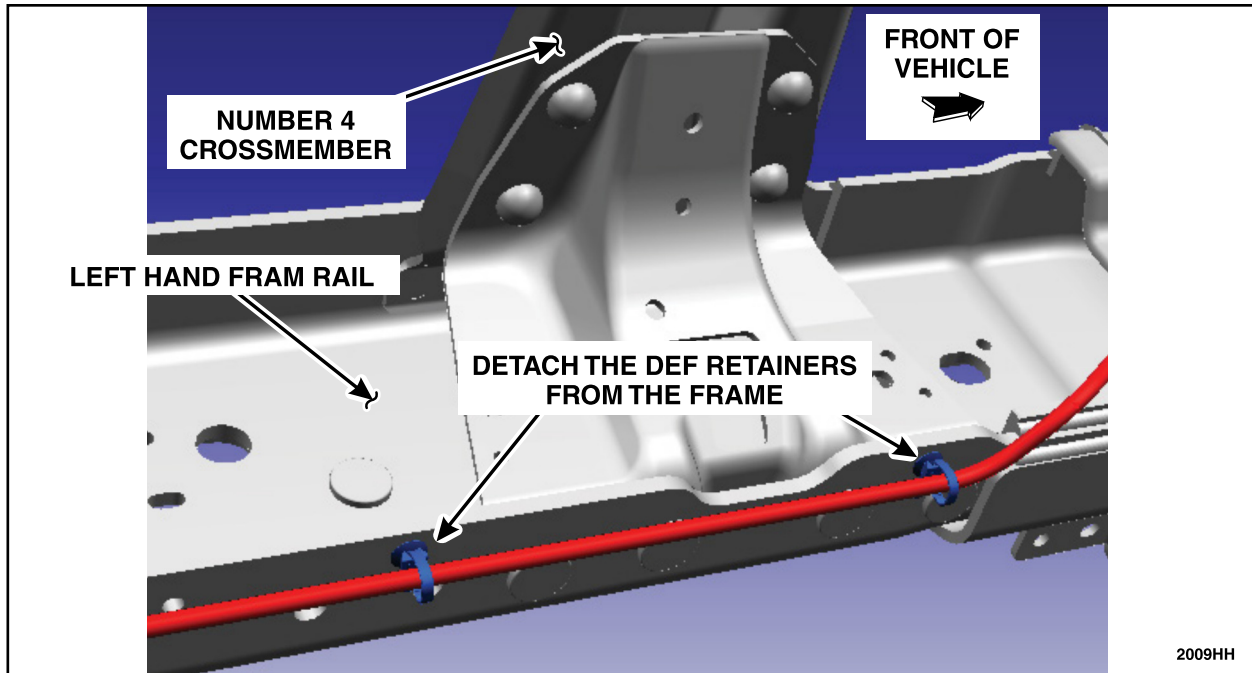

FIGURE 29
1. Detach the two (2) DEF pressure line retainers that retain the line to the frame, under the number 4 crossmember as shown in Figure 29. Position the DEF pressure line aside.